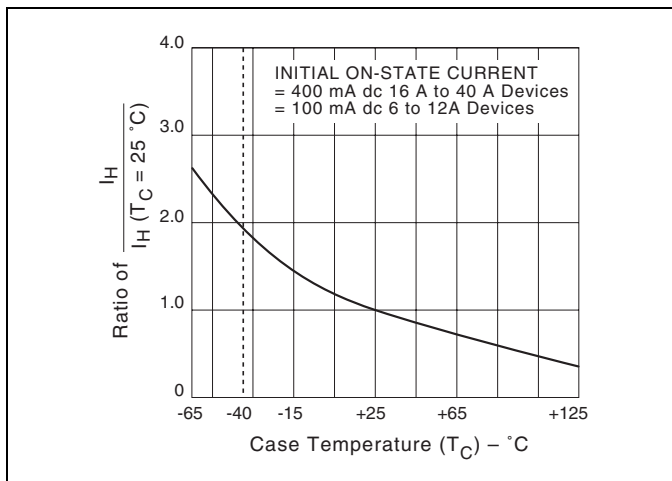

Figure E4.9 Normalized DC Holding Current versus Case Temperature
- See Figure E4.9 for I_H versus T_C.